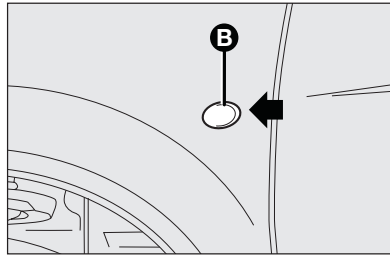

fig. 16
- prise in the point indicated by the arrow, so as to compress the fixing clip and extract the assembly **B-fig. 16**;